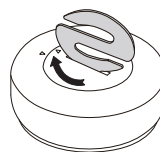

fig.3
---Put the battery cover back and turn clockwise to fix it (fig.3).